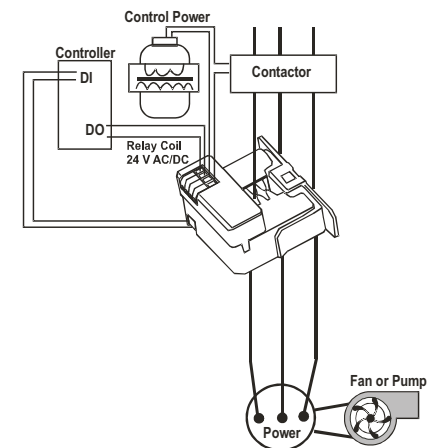

Figure 2:
- Wire the CSC/Command Relay as shown in Figure 2.